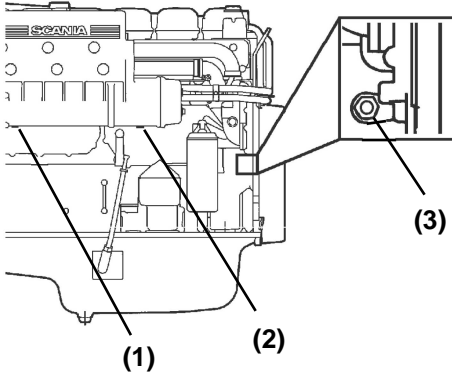

Figure 20
- from the two drain taps on the lower right side of the block (**Figure 20, (2)**)
- from the drain tap (**Figure 20, (1)**) located on the lower left side of the block
3. Close the drain taps (**Figure 20, (1 and 2)**) and replace the heat exchanger plugs (if equipped).
4. Fill the coolant recovery tank with coolant through the expansion tank fill hole (**Figure 20, (3)**). See *Engine Coolant* on page 22 for refilling coolant. **WARNING! ALWAYS tighten the filler cap securely after checking the coolant level. Steam can escape during engine operation if the cap is loose.**